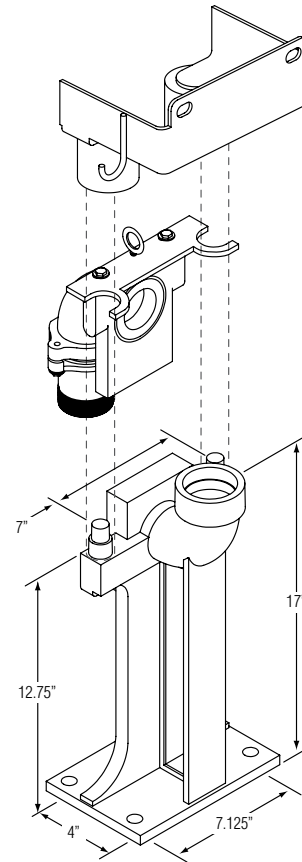

Figure 2: 1-1/4" and 2" System Components
3. Place the base elbow on the floor of the basin and position it side-to-side and front-to-back so that the rails will be plumb and aligned with the upper bracket. Level the base - shims may be required under the base in order to obtain a level condition. Mark the position of the base hold down bolts through the holes in the base. Figure 2 and 3 show the typical arrangement of system components.